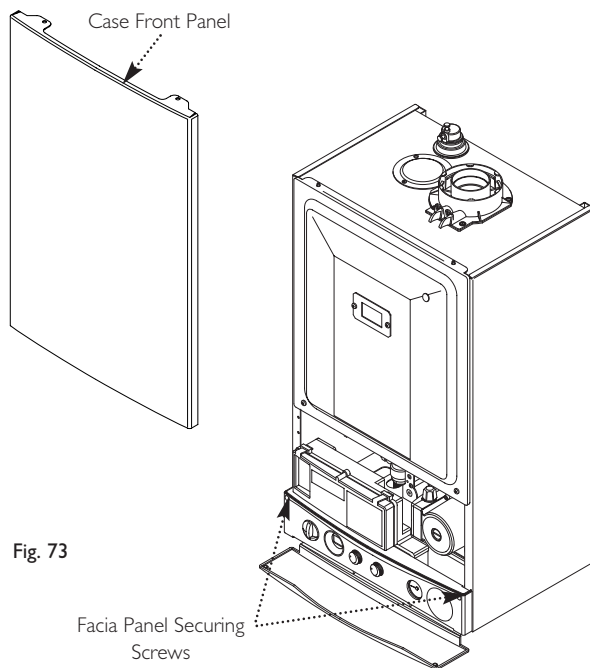

Fig. 73
5. Slacken the screws securing the fascia panel. Lift the outercase panel so that its securing tabs are clear of the fascia. Remove the panel, allowing the fascia to hinge down (Fig. 73).